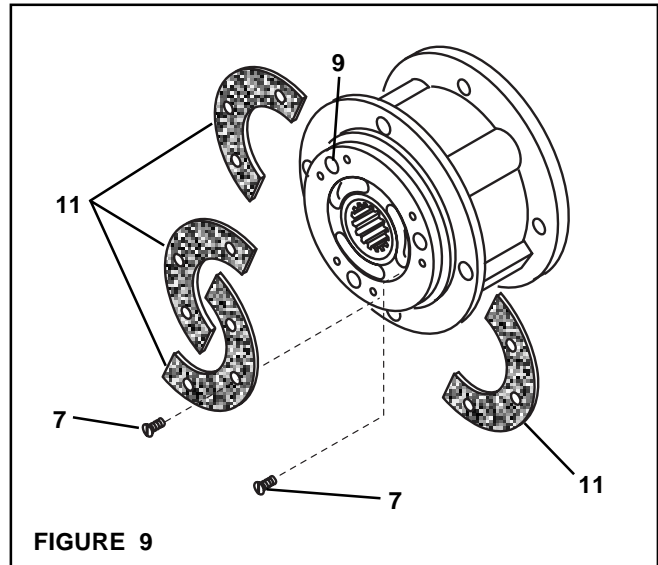

FIGURE 9
2. Remove the six old Flat Head Machine Screws (Item 7) and the first old split Friction Facing (Item 11) (See Figure 9).
3. Align the holes in the Splined Disc (Item 9) with the Flat Head Machine Screws (Item 7) that secure the second split Friction Facing (Item 11) (See Figure 9).
4. Remove the six old Flat Head Machine Screws (Item 7) and the second old split Friction Facing (Item 11) (See Figure 9).
5. Install the first new split Friction Facing (Item 11) and new Flat Head Machine Screws (Item 7) (See Figure 9).
6. Tighten the six new Flat Head Machine Screws (Item 7) to 20 In. Lbs. [2.26 N•m] torque (See Figure 9).
7. Install the second new split Friction Facing (Item 11) and six new Flat Head Machine Screws (Item 7) (See Figure 9).
8. Tighten the six new Flat Head Machine Screws (Item 7) to 20 In. Lbs. [2.26 N•m] torque (See Figure 9).